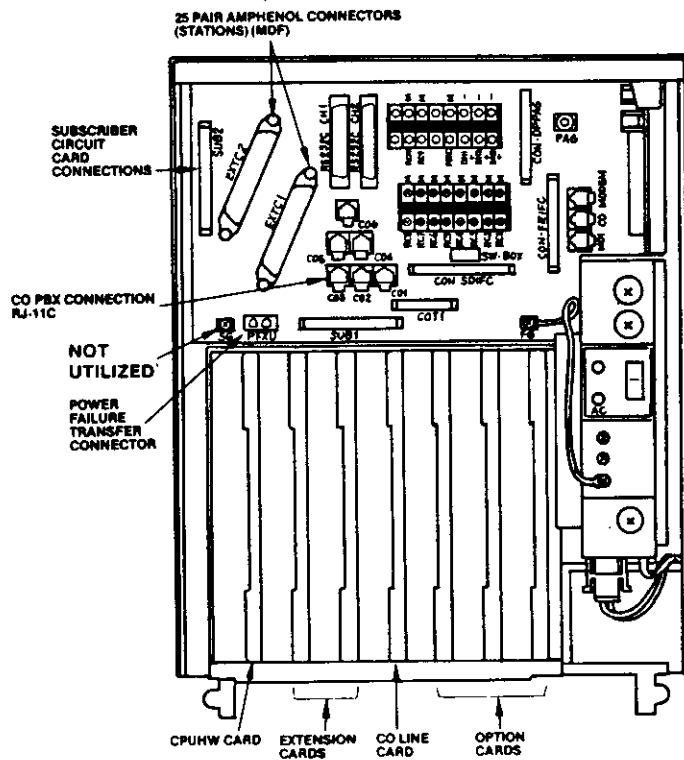

FIGURE 4-5 ZT-616 KSU
- The ZT-616 KSU provides for system configurations of up to six (6) CO/PBX lines and sixteen (16) extensions. Its power source is an internally mounted PWSA unit.
- Figure 4-5 illustrates a ZT-616 KSU with its cover removed and details the major components and card slot locations.